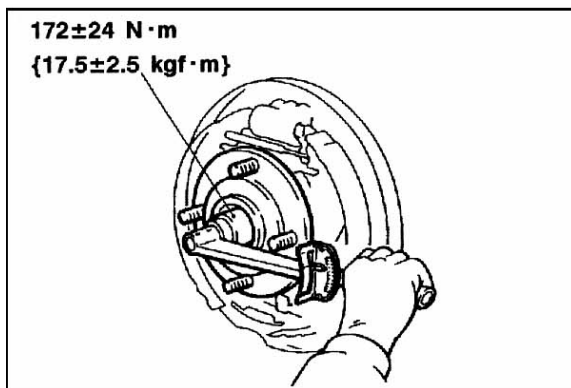

Fig. 13-9
(2) Lock nut installation(see Fig.13-9)